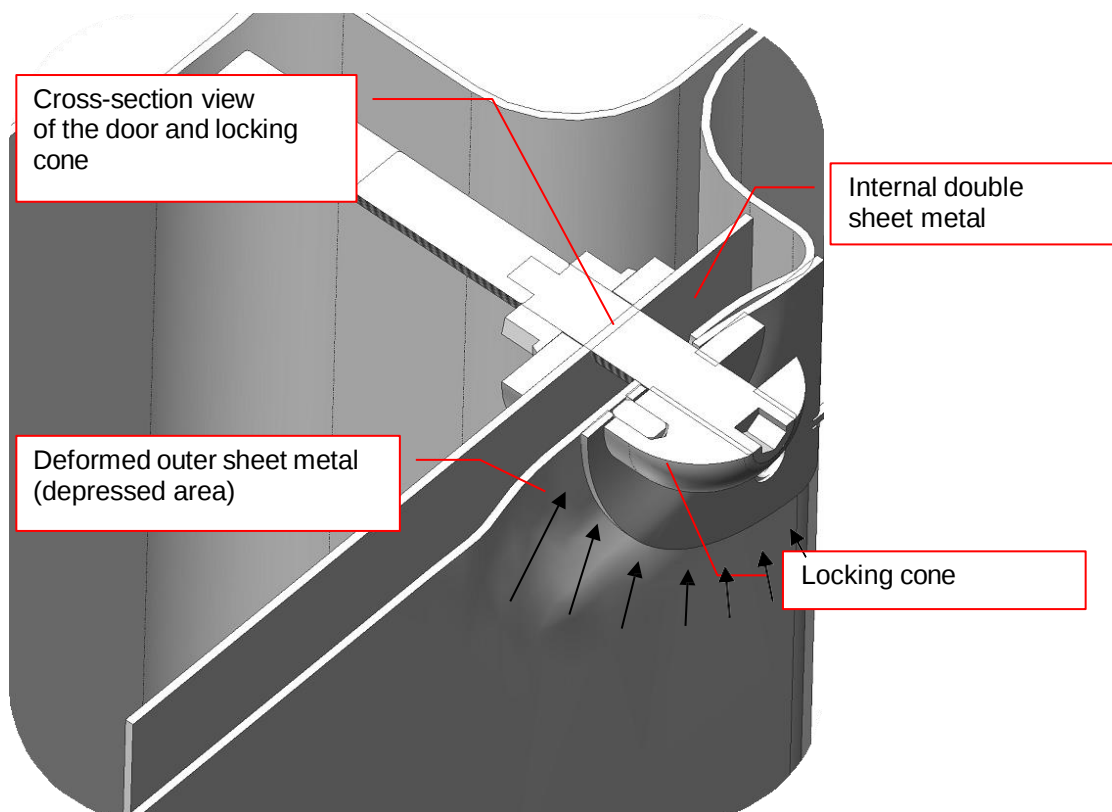
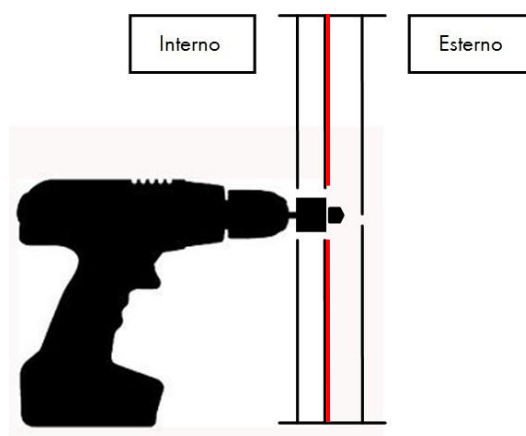

Fig.6
Fig.13
- In particular, if there is a second sheet metal or box-shaped profile inside the door corresponding to the cone fastening area and this is not drilled, tightening the long nut that secures the cone may cause the outer sheet metal to deform irreversibly, bending inward (Fig. 6). This deformation would invalidate the assembly and operation of the padlock. Any attempt to adjust the padlock will be futile.
In the event that there is a third/fourth sheet metal (for example ribs, reinforcements, boxes) between the external sheet metal and the internal sheet metal, it is necessary to drill holes in it (fig.13) in order to avoid shrinkage of the external sheet metal and to ensure correct support of the counterplate on the external sheet metal from the internal side (see Fig.6).